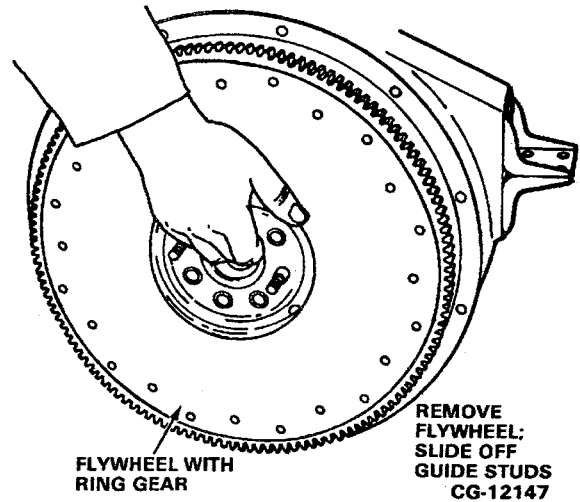

Figure 7.6. Remove Flywheel
2. Remove the remaining flywheel bolts and slide the flywheel out of the housing and off the guide studs to remove it from the crankshaft. Refer to Figure 7.6. With the flywheel removed, the guide studs can be removed from the crankshaft flange.